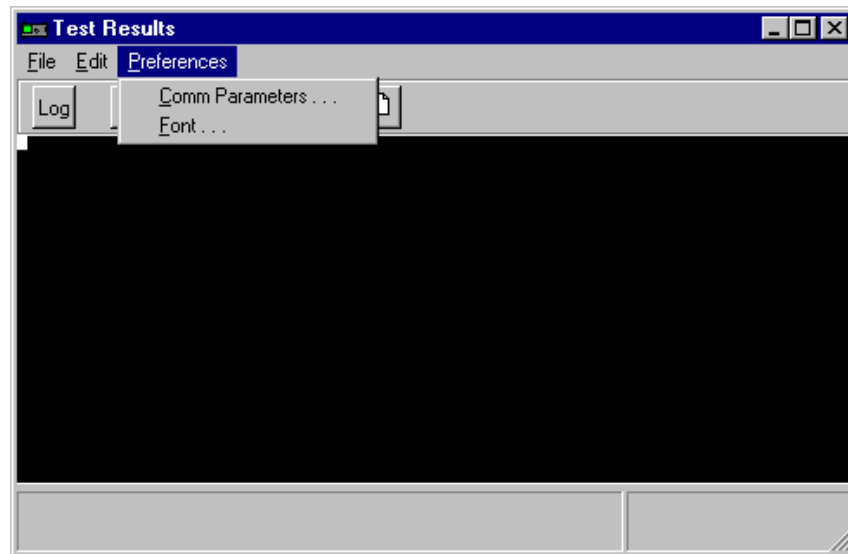

Figure 34 **Comm Port Setup Screen**
3. On the PC screen, click on the **Preferences** field, then click on the **Comm Parameters** field to display the Comm Port Setup screen (see figure 34).